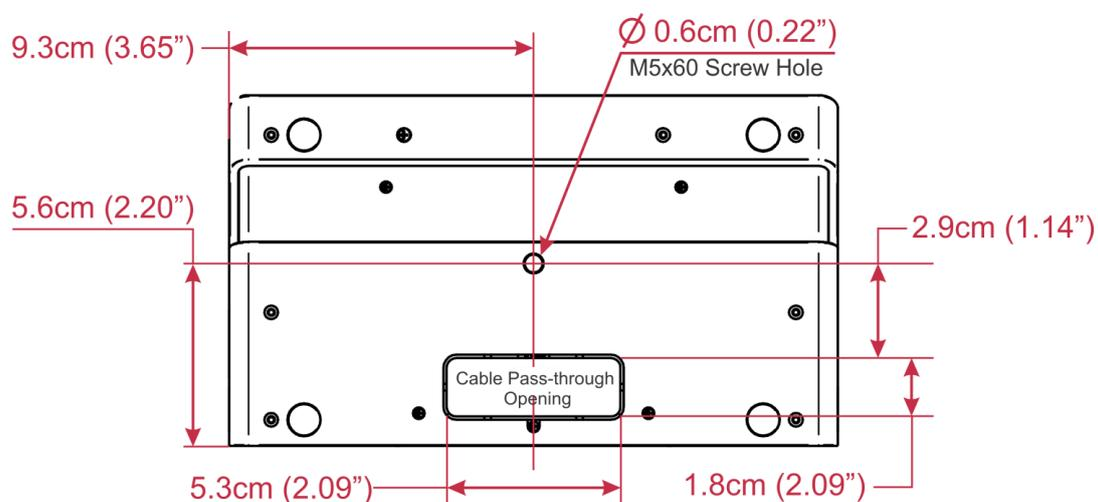

Figure 5: Cut-Out Dimensions (image not to scale)
The cut-out dimensions in Figure 5 are **not to scale**.
2. Drill a hole in the table and cut the cable pass-through opening with a saw according to the dimensions shown in Figure 5 (not to scale).